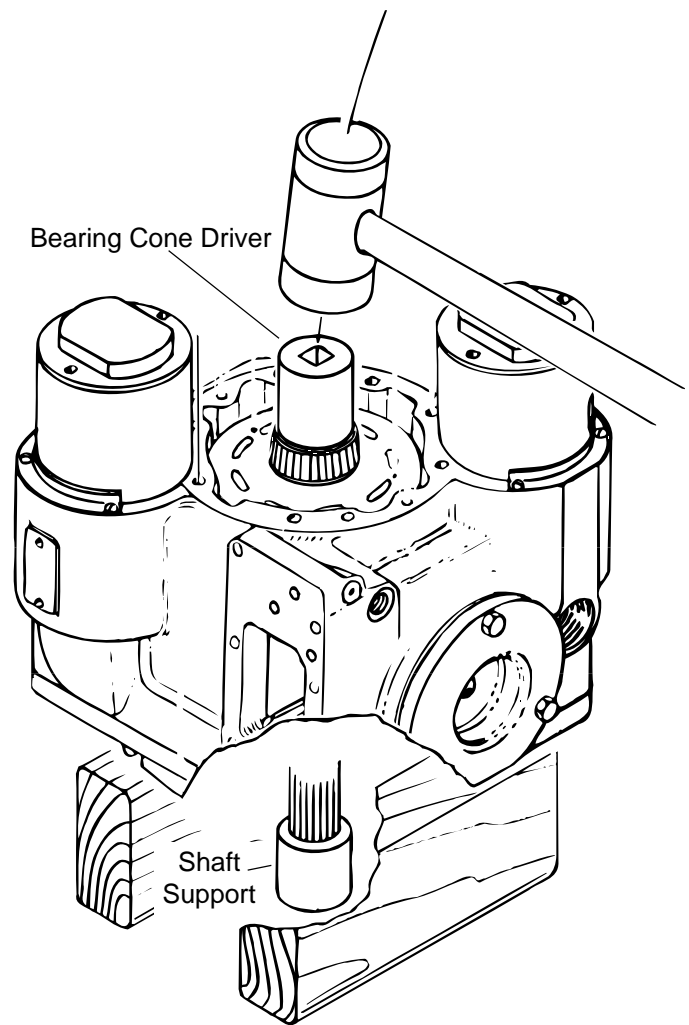

Figure 32
- 90** Support the motor's shaft and use a bearing driver to install the end cover bearing cone, see figure 32. Be sure the bearing cone is seated against the shoulder of the shaft.